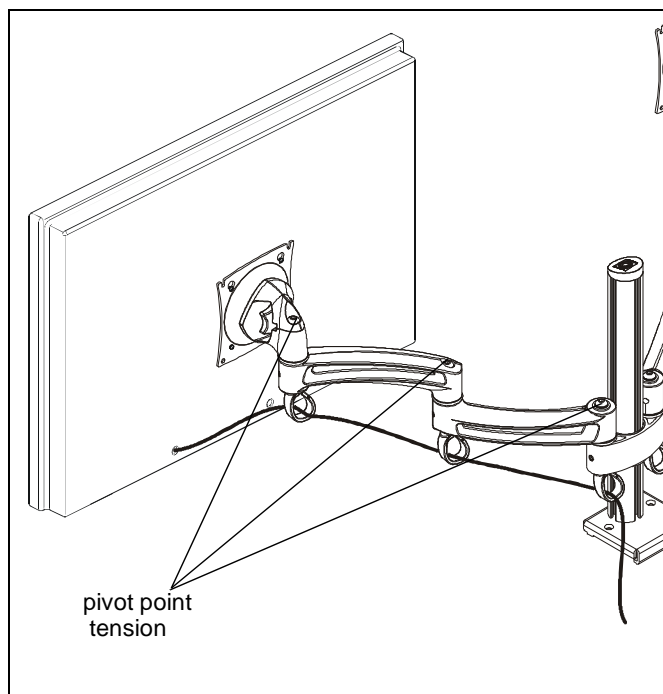

Figure 8
1. Adjust pivot position as desired. (See Figure 8)
2. Adjust pivot point tension screws to change pivot adjustment tension. (See Figure 8)